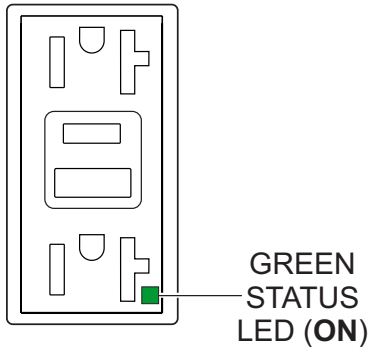

Figure 52. GFCI Receptacle (ON)
3. Verify that the **status LED** on the **GFCI receptacle** (Figure 52) is **ON (GREEN)**.